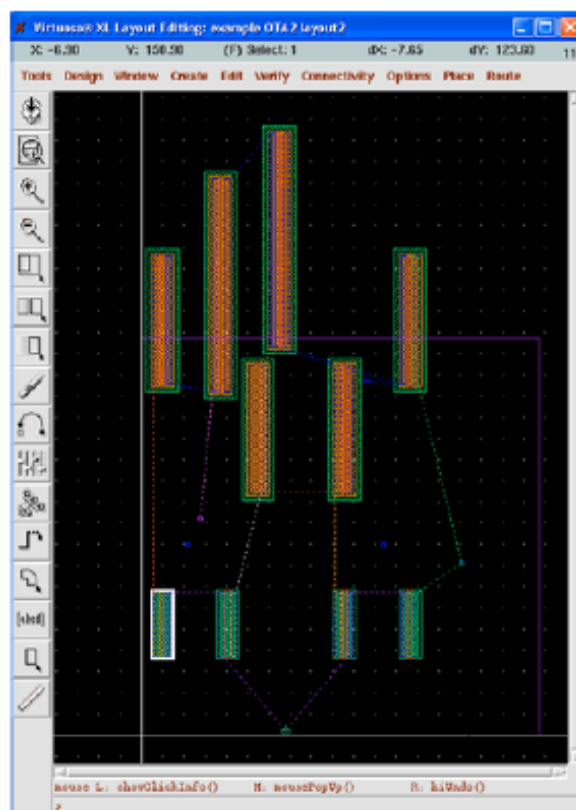

Figure 24. Virtuoso-XL windows displaying connectivity
1. In the Virtuoso window that shows the extracted view of the OTA, select **Verify -> LVS ...** A new window appears (Fig. 24). Select the schematic and the extracted views in the upper left and right areas of the window, respectively. Then click "RUN." The LVS check is performed in background mode. It takes a while, depending on the size of your design.